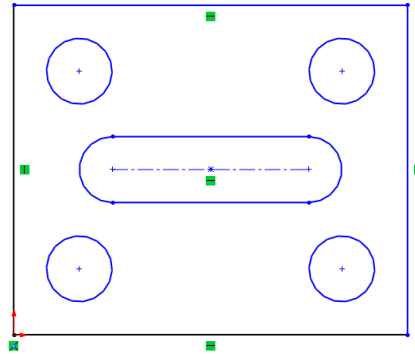

Figure 2-31 Final sketch for Tutorial 3
20. Choose the **Zoom to Fit (F)** button from the **View (Heads-Up) > Hide/Show items** toolbar to fit the sketch on the screen. The final sketch with the display of relations turned on, is shown in Figure 2-31.